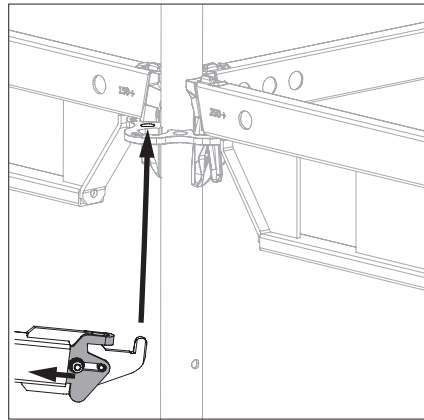

Fig. A4.02c
- 2. Push back slider **(20.2)** and insert horizontal brace with hook into the brace adapter of the diagonally opposite rosette from below. (Fig. A4.02c)